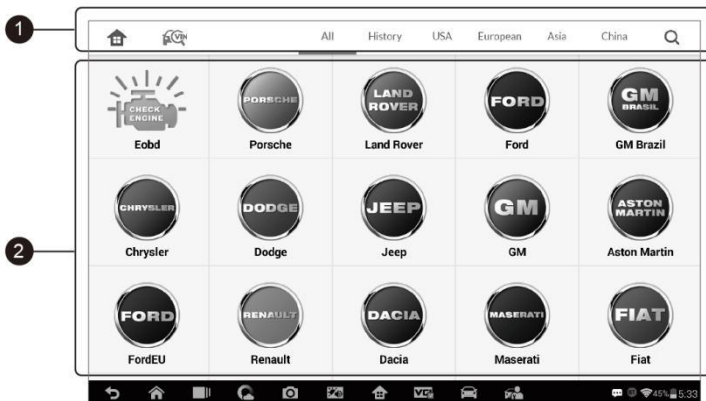

Figure 4-2 Sample Vehicle Menu Screen
1. Tap the **Diagnostics** application button from the MaxiPro Job Menu. The Vehicle Menu displays (*Figure 4-2*).
1. Tap the **Diagnostics** application button from the MaxiPro Job Menu. The Vehicle Menu displays (Figure 4-2).